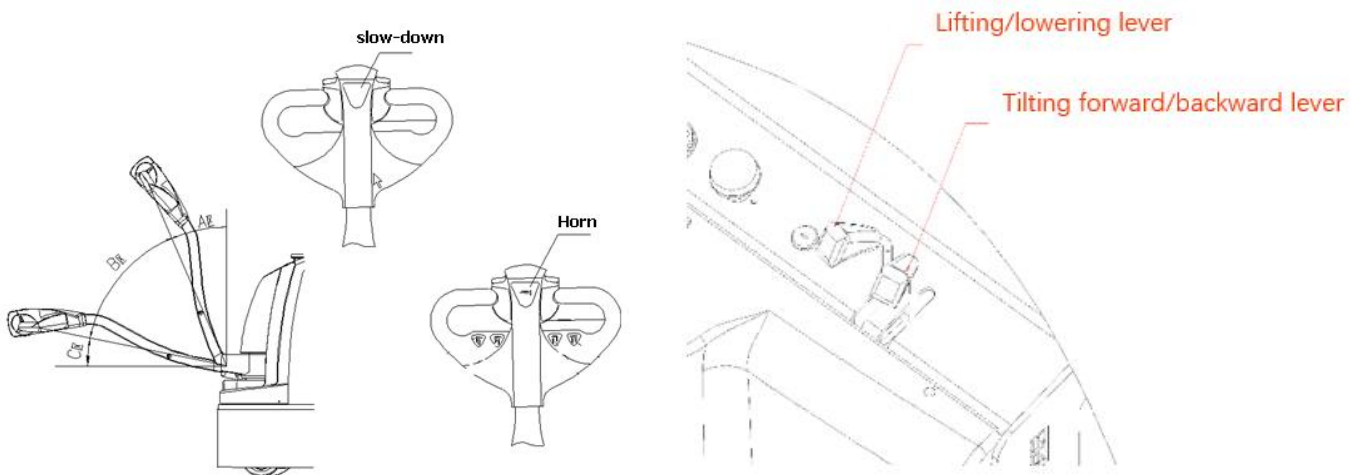

Fig.2
5. 1. 3 As shown in Fig.2, check if the brake is normal; Check if movements like lifting, lowering, travelling forward and backward of the truck are normal; Check if the emergency reverse is normal.
Move the handle to area A or area C as indicated in Fig.2 and press the lifting/lowering button on the handle to see if the fork lifts or lowers normally. Then turn the control handle to area B as indicated in Fig. 2, slowly start the truck and press the handle to the horizontal position to check that whether the truck can travel and brake normally.
Move the control handle to area B as indicated in Fig.2, press the emergency reverse button on top of the control handle to ckeck that whether the truck can travel backward normally.
Note: A side-magnetic brake is installed on the shaft end of the driving wheel motor and there is a cam and an inching switch installed on the rotary shaft of the rotary arm. Only when the rotary arm is at  $30^{\circ}\pm 20^{\circ}$  (as indicated in Fig. 2), the stacker can be turned on and travel. Larger or less than the angle, the stacker will be powered-off and braked. In that case, the stacker can lift goods. When lifting goods, the stacker cannot travel. As indicated in Fig. 2, when the operation handle is in area A or area C, the stacker can only lift or lower but not travel; when the control handle is in area B, the stacker can travel as well as lift or lower. The operation position of the handle will not be specially described in the following descriptions, i.e. the stacker can only lift or lower but not travel when the handle is in area A or C and the handle must be in area B when the stacker is traveling.
5. 2. 2 As indicated in Fig. 2, there is a button on the operation handle which is used for slowing down the stacker. When this "slow down" button is pressed as well as accelerate knob is turned, the stacker will travel at a low speed. This state is best suitable for turning a corner, stacking and moving into and out of the shelf while taking goods. When the "slow down" button is released and the accelerate knob is turned, the stacker will travel at a normal speed.
As indicated in Fig. 2, pull out the power supply switch, unlock the electric door lock, and drive the stacker to the goods pile nearby. (The tip of the fork is 300mm from the goods pile). Press the lowering button, adjust the height of the fork to a proper position, and insert the fork slowly and as deep as possible into the pallet of the goods. Press the lifting button till the fork is 200-300mm from the ground. Drive the stacker to the location of the goods shelf and stop slowly. (The tip of the fork is 300mm from the goods shelf.) Press the lifting button and the fork rises to a proper height with the shelf (The bottom of the pallet is about 100mm higher than the goods shelf). Move the goods slowly to the accurate position of the shelf and press the lowering button to put the goods carefully on the shelf. Take the fork away from the goods and drive the stacker slowly to make the fork out of the goods pallet. (The tip of the fork is 300mm from the goods shelf.) Lower the fork until it is 300mm from the ground and drive the stacker away from the shelf. Attention should be paid to that there should be no obstacles around and when turning, the speed should be reduced
As indicated in Fig. 2, pull out the general power supply switch, unlock the electric door lock, and drive the stacker to the goods shelf nearby. (The tip of the fork is 300mm from the goods shelf). Press the lowering button, adjust the height of the fork to a proper position, and insert the fork slowly and as deep as possible into the pallet of the goods. Press the lifting button to lift the goods till the bottom of the pallet is 100mm from the goods shelf. Slowly drive the stacker and slowly move the goods out of the shelf (the tip of the fork is 300mm from the goods shelf). Press the lowering button and the fork lowers to a height of 200-300mm from the ground. Drive the stacker away from the goods shelf until it reaches a desired position and then slowly stop it. Press the lowering button to put down the goods, make the fork completely away from the goods and move the fork slowly out of the goods pallet.